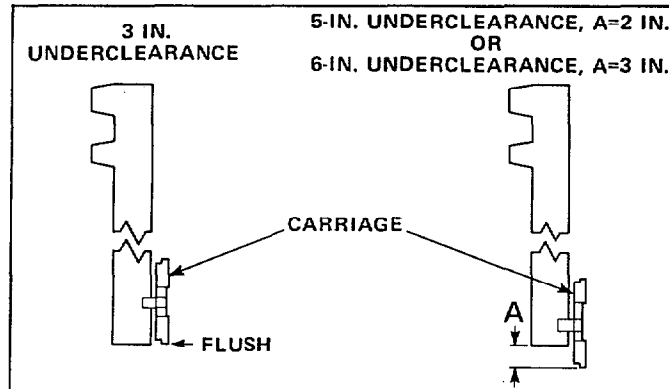

Figure 25. Correct Carriage Positions when Mast is Fully Lowered
The carriage hoist chains should be adjusted so that when the unloaded mast is fully lowered, the carriage is positioned as shown in Figure 25.
2. Adjust one carriage chain to achieve the correct carriage position when fully lowered, as shown in Figure 25.